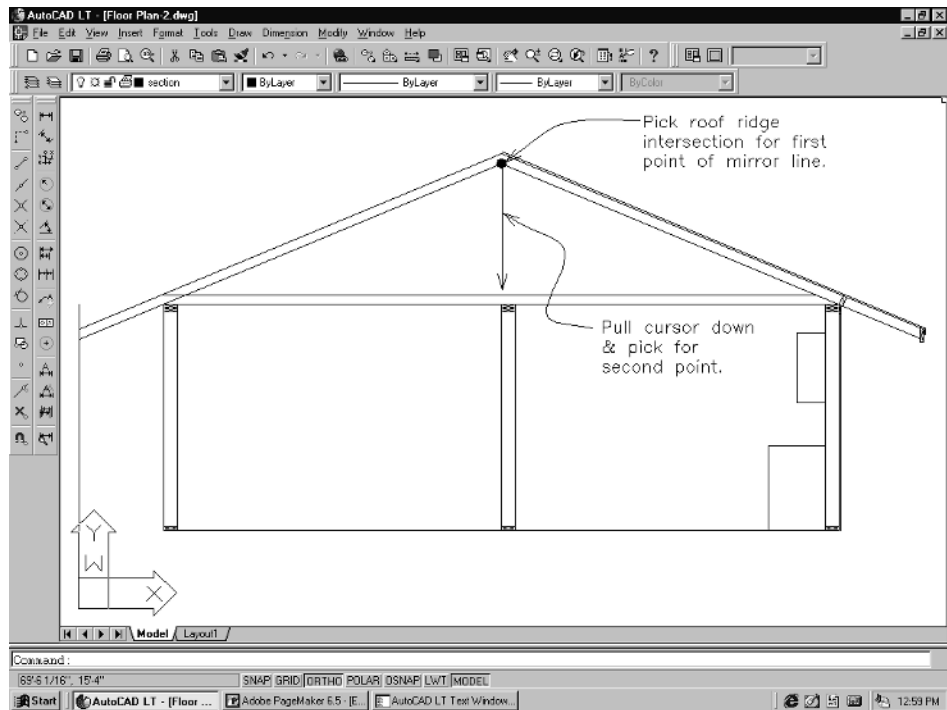

Figure 3-62
14. At the *Specify first point of mirror line* prompt, pick the intersection of the roof rafters at the ridge. This is the exact center of the roof. When the *Specify second point of mirror line* prompt appears, pull the cursor down and pick, as in Figure 3-62. Hit **Enter** at the *Delete source objects? [Yes/No] <N>* prompt because you want the source objects to remain where they are. If you typed Y, the source, or original, objects that you mirrored would be erased. Occasionally you do want to erase the source objects, but not in this case.